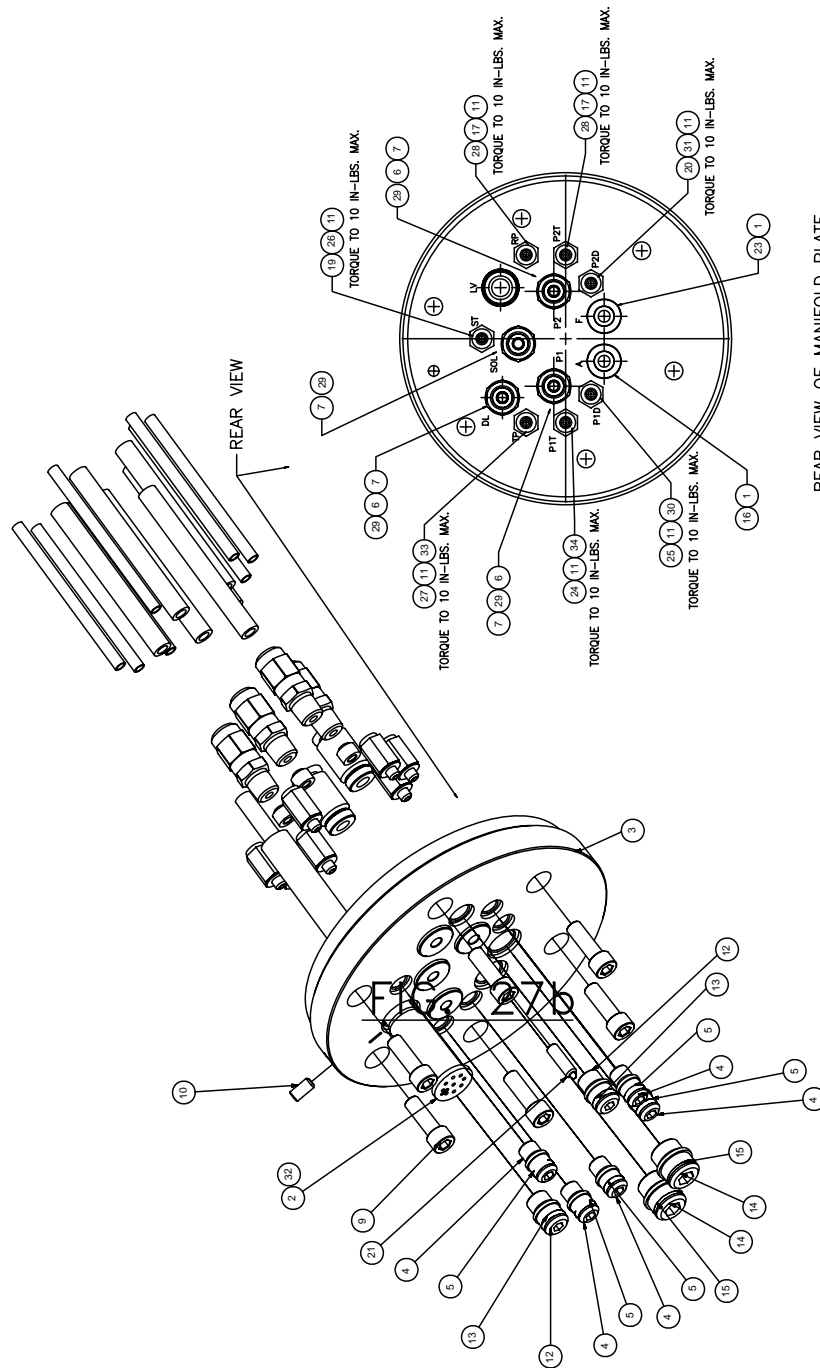

Figure 27b: A10853 Rear Tubing Manifold Assembly - Metric
**A10853 REAR TUBING MANIFOLD ASSEMBLY - PARTS LIST METRIC (Figure 27b)**
(For A10853 Rear Tubing Manifold Assembly - Metric, See Figure 27b.)